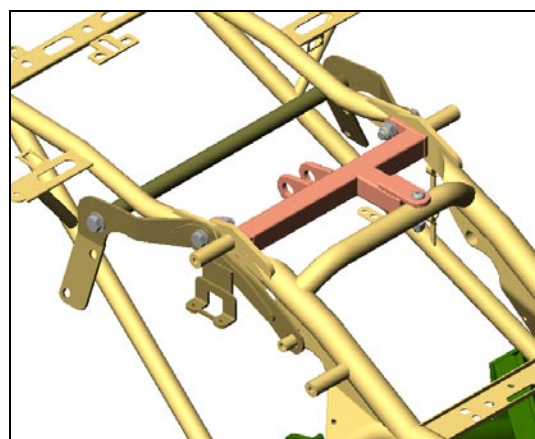

Figure 21
- a. Install left and right Body Frame Top Mounts, Cross-over Support Tube and Center Shock Mount. Figure 21